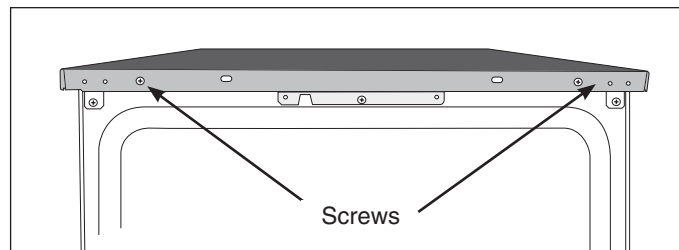

Figure 4-15.
2. Using a #2 square bit screwdriver, extract the two screws securing the top panel to the unit frame. (See Figure 4-15)